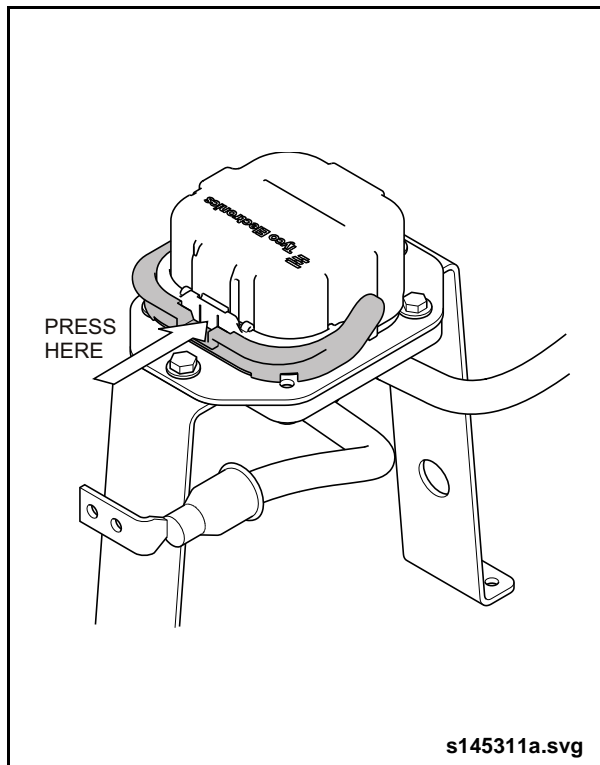

Fig. 6: Manual Service Disconnect - 1
- a. Press the locking tab and rotate the MSD lever 45°. See “Fig. 6: Manual Service Disconnect - 1” on page 6.